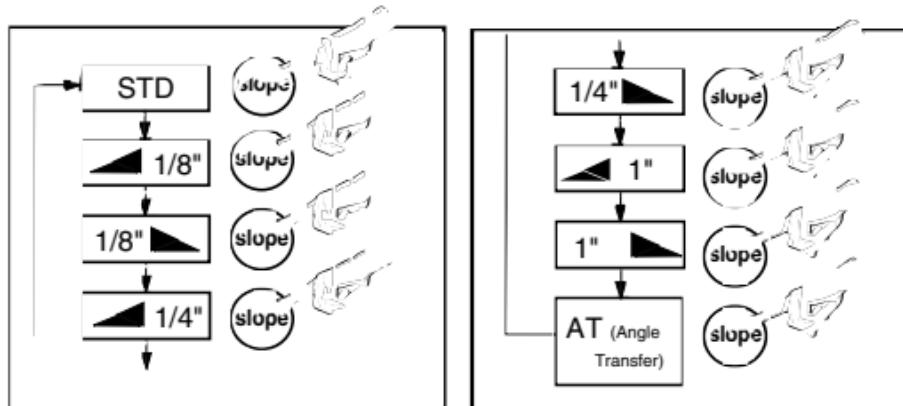

Figure 14: Selecting a Slope
- To get to the desired angle and direction, press the SLOPE button repeatedly until the desired angle and direction are found (Figure 14 below).